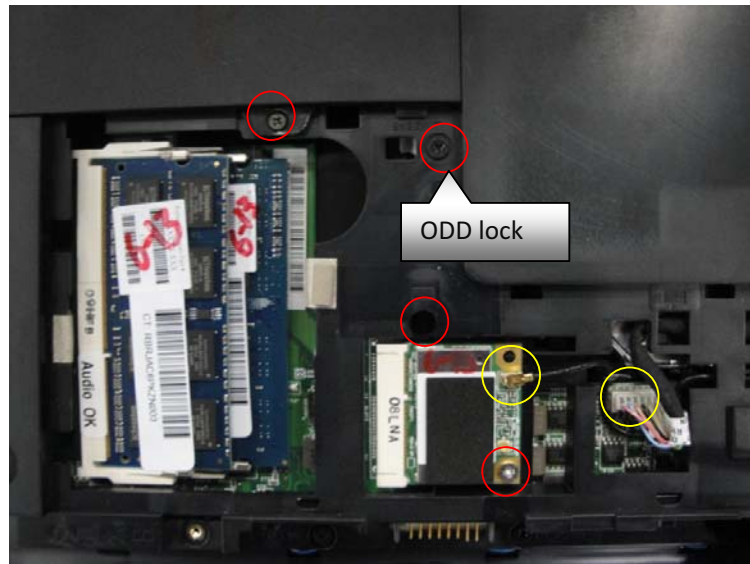

Fig.1
1. Loosen four screws and pull out the WLAN cable and power cable.(Fig.1)
2. Take off Memory、WLAN、HDD door and ODD.(Fig.1)